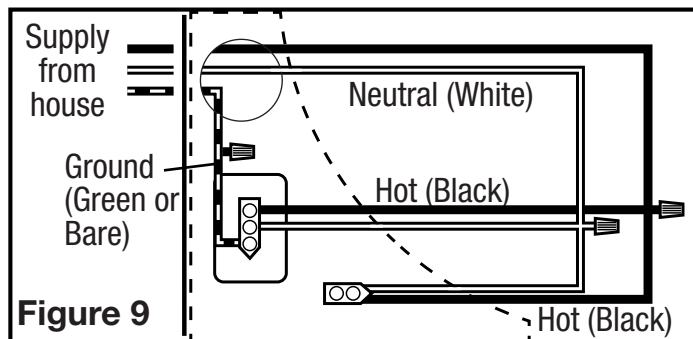

Figure 9
- 2a. From where you have access to inside the fan's junction box, connect the one white wire from the house to both the white wire from the fan's light receptacle and the white wire from the fan's exhaust receptacle. Connect the black wire from the wall switch to both the black wire from the fan's light receptacle and the black wire from the fan's exhaust receptacle. Connect the ground wire from the house to the green wire from the fan's receptacle (Figure 9). Use approved methods for all connections.